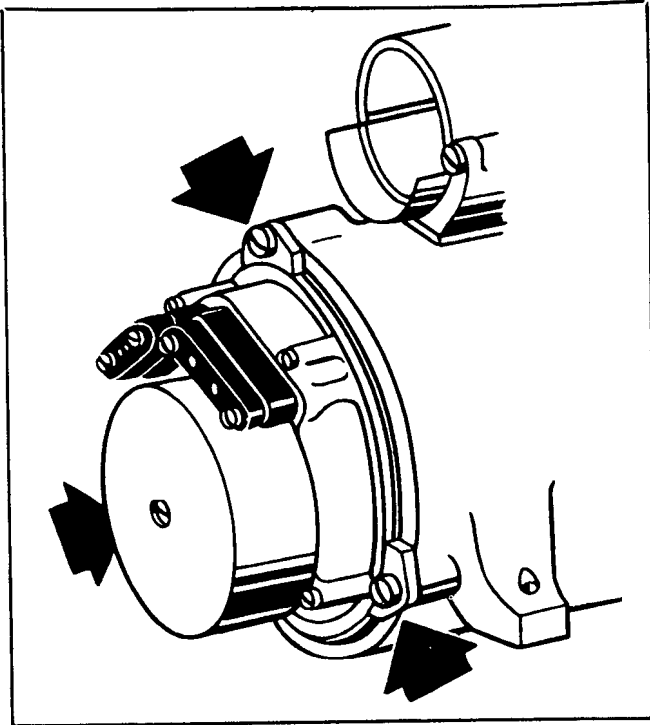

Figure 3-51. Adjustment of Synchro Control Transformer
(28) Stop the Antenna on zero degrees azimuth as indicated by the ship's head marker. Loosen the clamps on the synchro-control transformer B-502 and rotate it until the PPI trace also indicates zero degrees of azimuth. See Fig. 3-51. Tighten the clamps. The indicator will now indicate the position of the Antenna in azimuth.